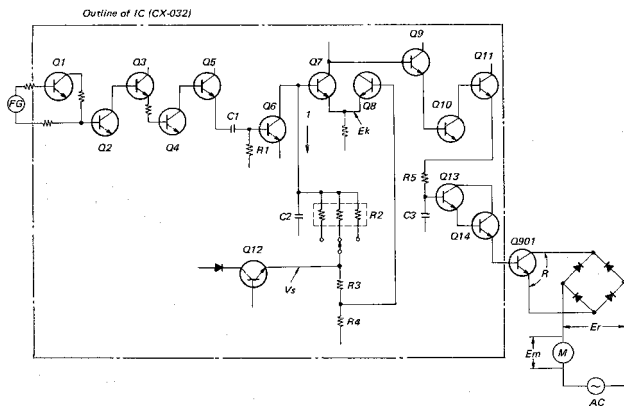
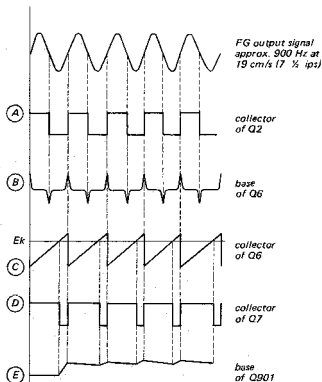

Fig. 9. Servo amplifier outline
Fig. 10. Waveform at each point
Servo amplifier which changes impedance  $R$  operates as follows: See Fig. 9 and Fig. 10.
- 1) Sine wave signal generated by frequency generator FG is transferred to bases of Q1 and Q2. Since base bias voltages of Q1 and Q2 are set to saturation region, sine wave signal is waveshaped to square wave signal shown by (A) in Fig. 10.
- 2) Square wave signal from Q2 is amplified by Q3, Q4 and Q5. It is transferred to differentiating circuit comprising C1 and R1 and is waveshaped to pulse shown by (B) in Fig. 10. Then it is transferred to base of Q6.
- 4)  $V_s$  also charges C2 according to the time constant decided by C2 and R2. The charged voltage is applied to collector of Q6. When pulse shown by (B) in Fig. 10 is transferred to base of Q6, Q6 repeats ON and OFF states. C2 discharges while Q6 makes current flow as shown by the arrow (1) in Fig. 9. Thus sawtooth wave signal shown by (C) in Fig. 10 is obtained at collector of Q6.
- 5) The sawtooth wave signal is supplied to base of Q7. Since the emitter voltage  $E_k$  is kept constant, Q7 turns ON only when the peak value of sawtooth wave signal is greater than  $E_k$ . When Q7 turns ON, the negative pulse shown by (D) in Fig. 10, appears at collector of Q7.
- 6) This pulse is amplified by Q9, Q10 and Q11, and its polarity is inverted. The positive pulse is transferred to the integrator comprising R5 and C3, and is waveshaped as shown by (E) in Fig. 10. After being amplified by Q13 and Q14, it is transferred to base of Q901. And this base voltage changes impedance between collector and emitter of Q901 and controls motor speed.